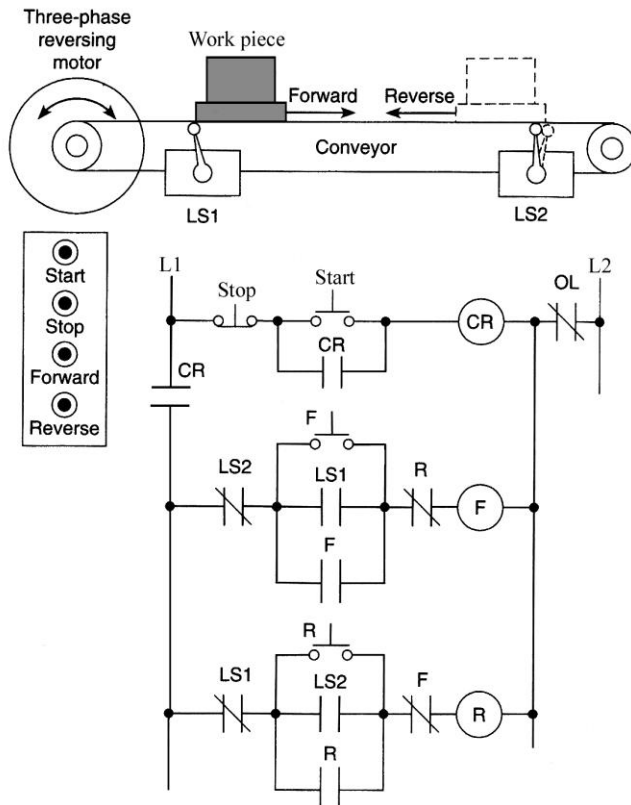

Figure 6-32 Hardwired circuit for assignment 8.
8) The hardwired reciprocating machine process circuit shown in Figure 6-32 can be programmed using a PLC. The operation of the process is summarized as follows: